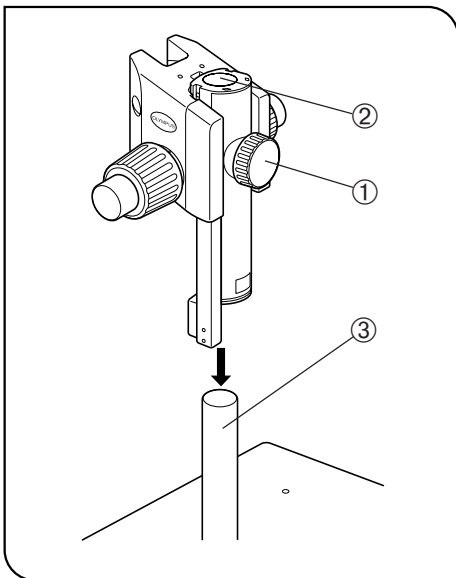

Fig. 5
2 Mounting the Focusing Assembly (Figs. 5, 6)
1. Fully loosen the focusing assembly clamping knob ①. While holding the focusing assembly with both hands, insert the pillar ③ into the mounting hole ②. (Fig. 5)
2. After inserting the focusing assembly until it reaches the stop position, secure it with the microscope body clamping knob ①. (Fig. 5)